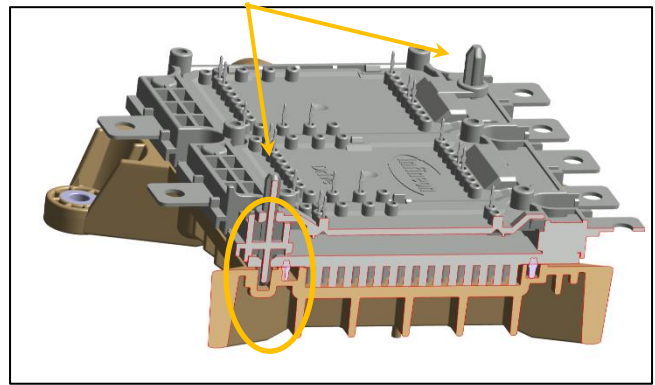

Figure 5 - Center pin
- Please mount the HP-Drive modul with the centering pins in the holes of the cooler housing (Figure 5)